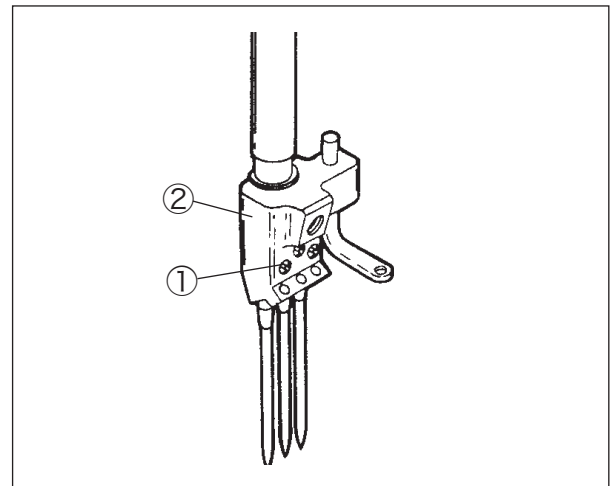
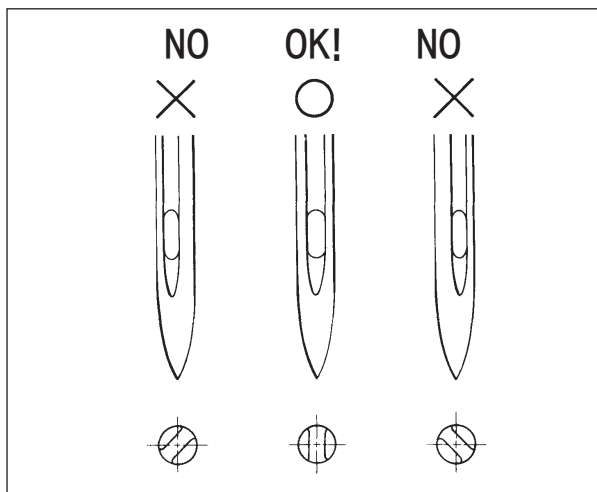

Fig. 5-1
Fig. 5-2
- (1) Loosen the screws ① with a screwdriver. (Fig. 5-1)
- (2) Remove an old needle with a pair of tweezers.
- (3) Insert a new needle into the needle clamp ② as deep as possible with its scarf facing the right back. (Figs. 5-2, 5-3)
- (4) Tighten the screws ① with a screwdriver.